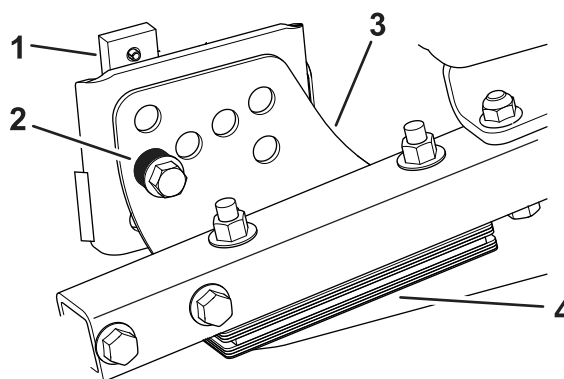

Figure 75
1. Remove the height-of-cut bracket (front, left, or right) from the deck frame (Figure 75).
2. Adjust 1.5 mm (0.060 inch) shims and/or 0.7 mm (0.030 inch) shim between the deck frame and bracket to achieve the desired height setting (Figure 75).